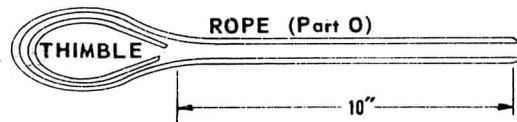
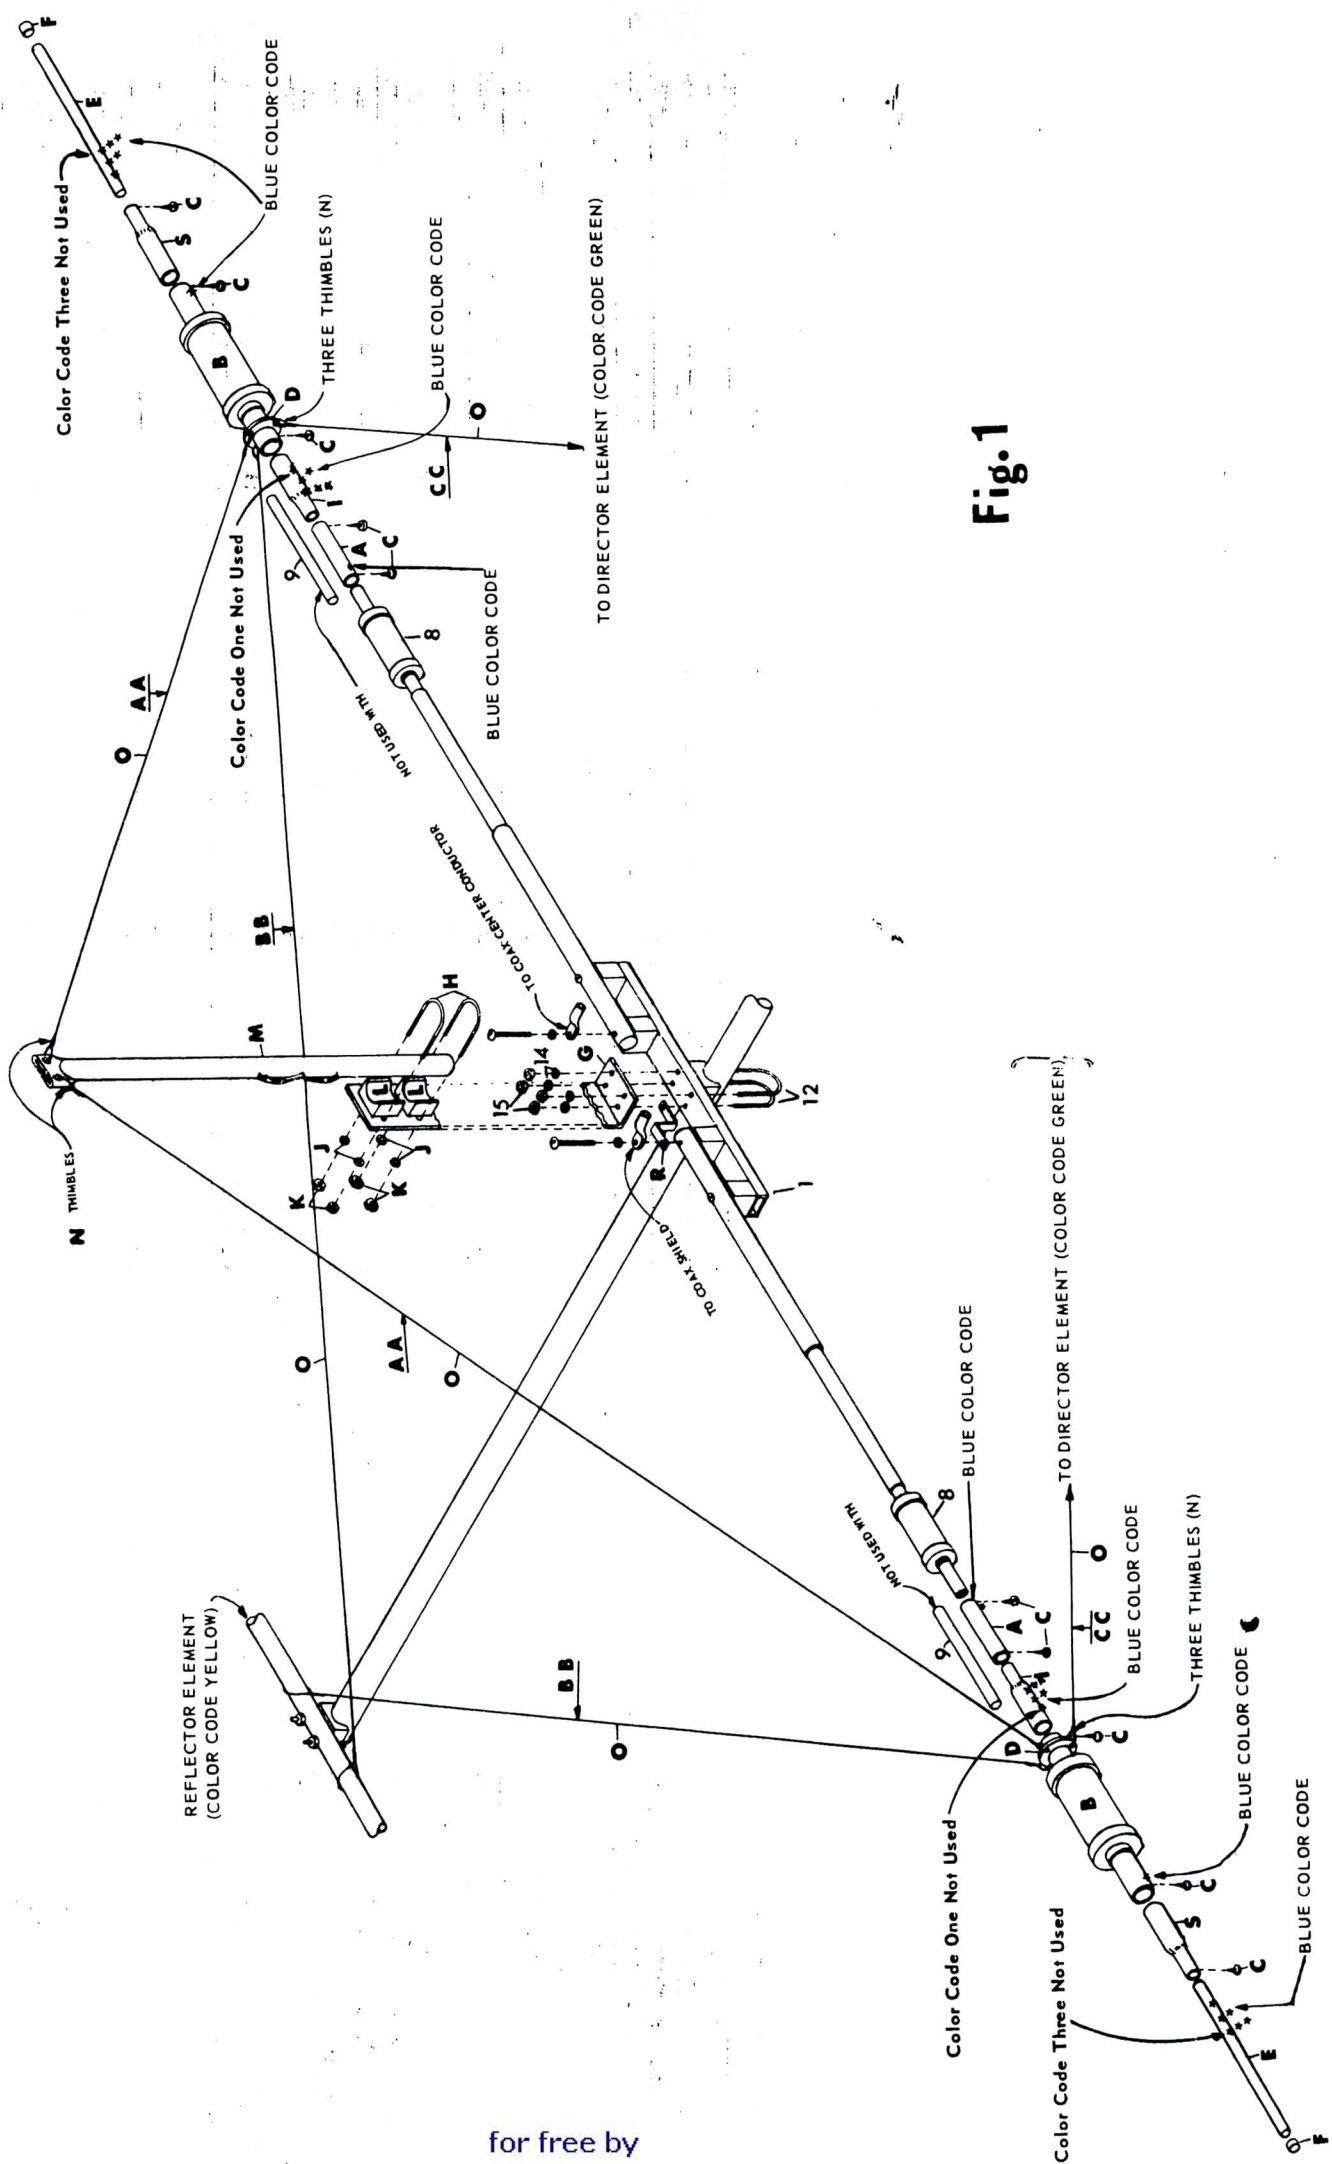

Fig. 2
Fig. 1
The Mosley MP-40KR Conversion Kit will convert the Mosley MP-33 antenna so that the radiating element of this system will also operate as a half wave dipole on 40 meters. All components included in this kit are listed under the parts list in alphabetical order rather than numerical order so these components may be distinguished from components which are normally included with the MP-33 antenna. Figure 1 shows the radiating element assembly. Guy ropes are attached to the parasitic element sections such as element (part 17) used on the MP-33 antenna. In figure 1 the asterisks (\*) denote color codes, position, and number of color code markings at these positions. Figure 2 shows the recommended method of securing the guys. Figure 3 shows an overall length schematic, and designates the number of turns on each radiator coil assembly. Before beginning with the MP-40KR assembly it must be decided at what frequencies the finished
Before beginning with the MP-40KR assembly, read all instructions thoroughly and study the drawings and charts carefully. Check parts against parts list to insure all items have been included. Remove antenna from its supporting tower and place on fairly level ground. Begin assembly by removing the nuts and lockwashers (parts 15 and 14) and ground strap from U-bolts (part 12) on the element support (part 1) of your MP-33 antenna. Align the four holes of the angle plate (part G) over the two U-bolts (part 12). See figure 1. Place ground strap (parts 23 or R) on one of the U-bolts (part 12), and secure both U-bolts with the nuts and lockwashers (parts 15 and 14). Install U-bolts (part H) in the holes to the top of angle plate (part G) and loosely install nuts and lockwashers (parts J and K). Place the flat side of clamping blocks (parts L) between U-bolts (part H) and against angle plate (part G) as shown in figure 1. Place vertical mast (part M), with the mashed end to top, between U-bolts (part H) and into radius of clamping blocks (part L) as shown in figure 1. Secure the nuts and lockwashers (parts K and J). Remove the end element extensions (part 9) on radiator element and store for future use. Telescope blue color coded end of tubing (part A) over traps (part 8), *Caution if antenna was coated with antenna coat, trap ends must be sanded before telescoping*; align holes and secure with screws (part C) as shown in figure 1. Telescope swage end of tubing (parts I) into tubing (parts A), align holes, and secure with screws (parts C). Place guy rings (parts D) over ends of traps (parts B) which are not color coded, and telescope this end over tubing (parts I) as shown in figure 1. Align the holes in traps (parts B) with holes in tubing (parts I) according to the frequencies listed on the frequency charts and schematic figure 3 and secure with screws (parts C). Telescope swage tubing (parts 5) with swage end out into blue color coded end of traps (parts B). Align holes and secure with screws (parts C). Telescope blue color coded ends of tubing (parts E) into swage end of tubing (parts 5). Align holes according to frequencies on frequency charts and schematic figure 3, and secure with screws (parts C). Press the caplug (parts F) over the ends of tubing (parts E). Assemble guy ring thimbles (parts N) to guy rings (part D) and holes in mashed end of vertical mast (part M) as shown in figure 2. Cut guy ropes AA 20 feet long from guy line supply (part O). Guy ropes AA are installed between guy rings (parts D) and vertical mast (part M). Figure 2 shows the preferred knot to be used at guy rings (parts D). Cut guy ropes BB 20 feet long and guy ropes CC 20 feet long. Guy ropes BB and CC should be installed to thimbles (parts N) on guy rings (parts D) with knot shown in figure 2 and the other ends tied to the reflector or director element as shown in figure 1. It may be necessary to readjust guy ropes after installation due to stretching and slipping of the knots.
**20 METERS NORMAL SETTING:** The distance of 29 inches between edge of trap covers (parts B and 8) as shown in schematic figure 3. The distance is obtained by aligning the hole color coded three blue in swage tubing (parts I) with the hole in trap assembly (parts B). See figure 1 and frequency charts.
**20 METERS EXTENDED SETTING:** The distance of 30 1/2 inches between edge of trap covers (parts B and 8) as shown in schematic figure 3. This distance is obtained by aligning the hole color coded two blue in swage tubing (parts I) with hole in traps assembly (parts B). See figure 1 and frequency charts.
**40 METERS WITH 20 METERS NORMAL:** The distance of 29 inches between trap covers (parts B and 8) and the setting of the holes color coded one blue or two blue on the tubing (parts E). See figure 1 and frequency charts.
40 METERS WITH 20 METERS EXTENDED: The distance of 30 1/2 inches between the trap covers (parts B and 8) and the setting of the holes color coded one blue or two blue on the tubing (parts E). See figure 1 and frequency charts.